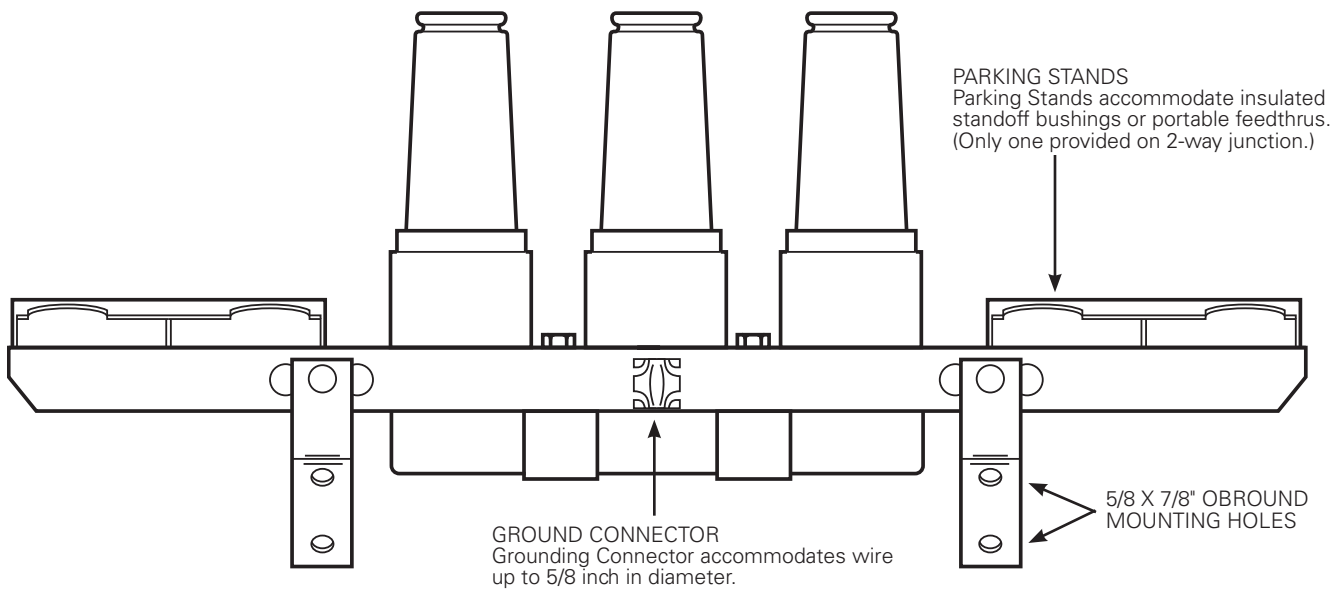

Figure 2. Pivot support/mounting feet assembled to frontplate
- Loadbreak Junction with Frontplate (assembled). See Figure 2.
- Using supplied 5/16" hardware, loosely attach adjustable mounting bracket to back of frontplate and place assembly against the mounting surface in desired orientation (Figure 2).